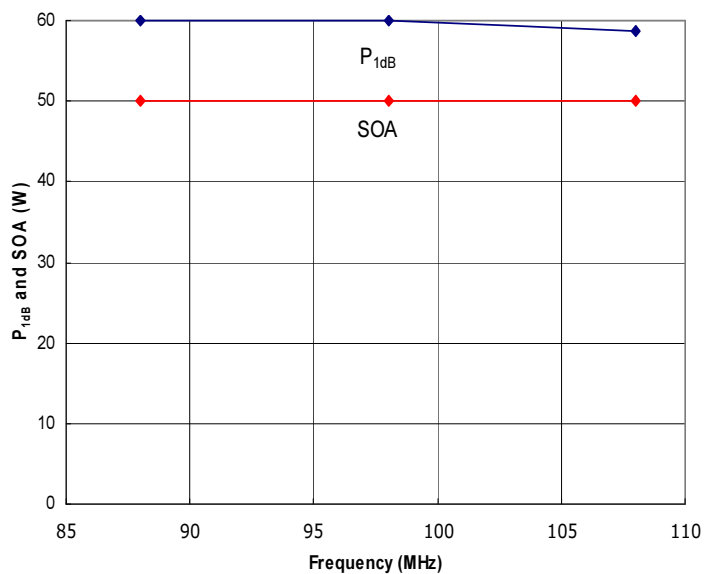

Figure 4: RFPS88-108-50 Typical P_{1dB} and Safe Operating Area (SOA).
- 5) Apply RF drive to achieve desired output level. Ensure that the Safe Operating Area (SOA) power level indicated in Figure 4 is not exceeded, or amplifier damage may occur, and will void the warranty.